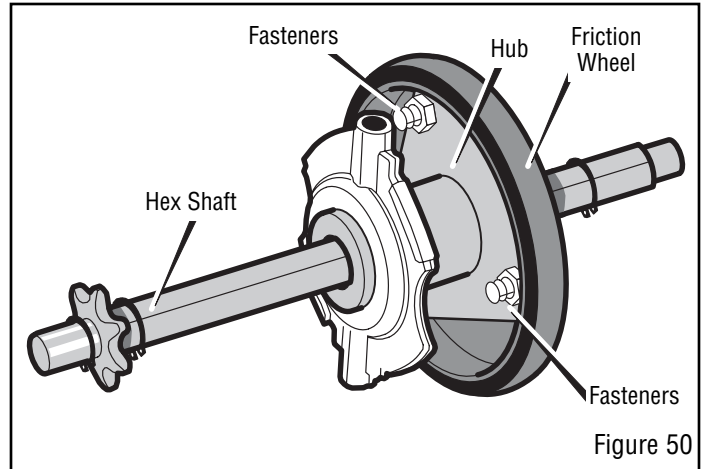

Figure 50
10. Remove the three **fasteners** that hold the **friction wheel** to the **hub** (see Figure 50).